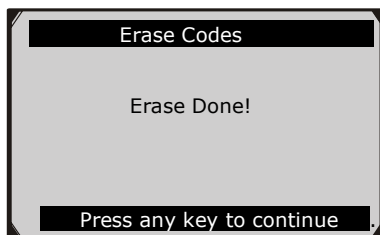

Figure 5.8
- If the codes are cleared successfully, an “Erase Done!” confirmation message shows on the display.( Figure 5.8)